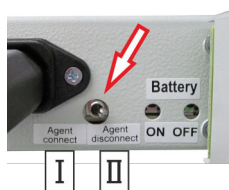

Fig. 51: Blocking switch
1. ▶ To block the system: Switch the blocking switch (Fig. 51 /arrow) to "Agent disconnect [blocked]" (Fig. 51 / II).